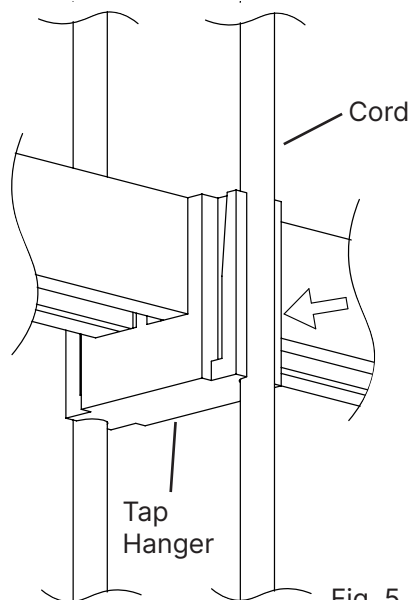

Fig. 5
5. Press each cord into the slot on each side of the **Tap Hanger** (Fig. 5).
2. Insert **Power Bars** into **Support**. **Note:** Wall Mount Perpendicular Power Bar Hanger (1XB03WP00x) is to be used in conjunction with Wall Flush Mount Support (1XB02WL00x) (Fig. 5), Wall Flush Mount Offset Support (1XB02WL01x) (Fig 6), and Wall Flush Mount Standard Power Feed (1XA08WL01x) or Remote (1XA08WL02x) (Fig 7).